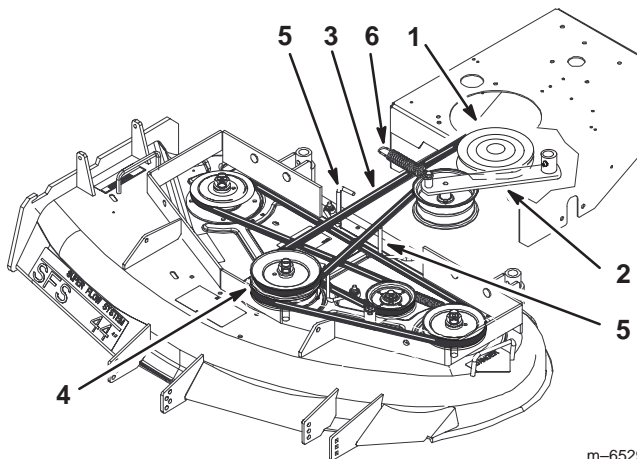

Figure 79
4. Remove the idler spring from idler arm. Remove the drive belt from the PTO engagement pulley and the center spindle pulley (Fig. 79).
5. Remove the worn drive belt (Fig. 79).
6. Install the new drive belt onto the PTO engagement pulley and the top groove of the center spindle pulley (Fig. 79).
7. Install belt onto idler pulley and then install idler spring (Fig. 79).
8. Adjust PTO drive belt guides an 1/8 inch (3 mm) from belt (Fig. 79).